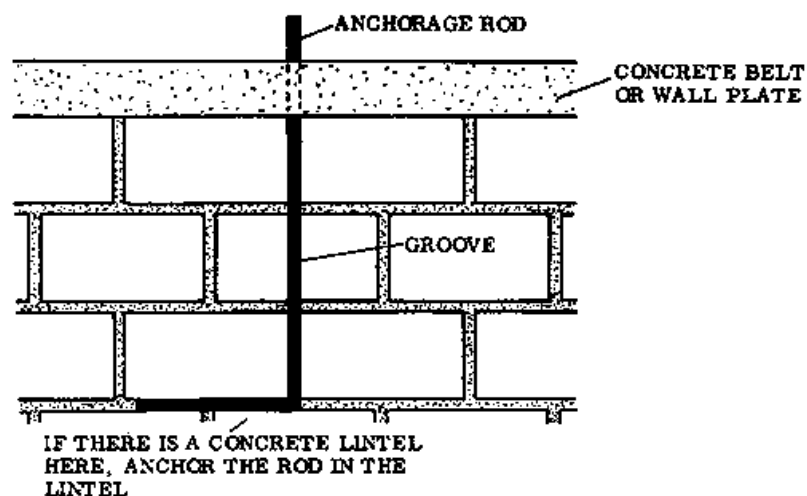

Fig. 1
- In the first method, the rod is inserted in the bed joint as the third course below the top of the wall is laid. The rod is bent at a right angle so it can fit into the cross joint (Fig. 1); and it is positioned just inside the face of the wall.
When the next course is laid, the block above is chiselled out to make a shallow groove (approximately 1 cm deep) for the rod (Fig. 1).
The rod fits into the next cross joint and is bent gradually inwards toward the top centre of the wall, coming out where it can pass later through the wallplate or concrete belt (Figs. 1 & 2).